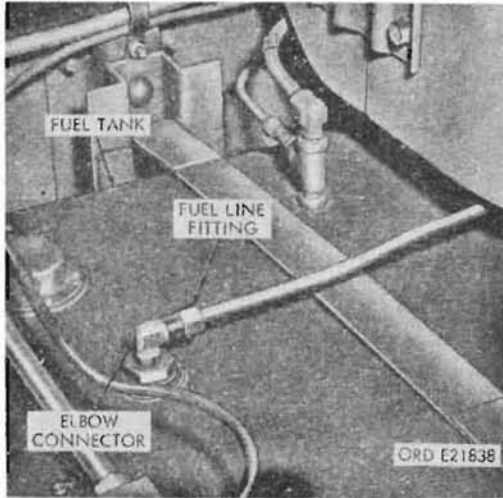

Figure 403. Fuel tank fuel line - multifuel
(1) Removal.
- (a) Disconnect fuel line fitting from fuel tank elbow connector (fig. 403).